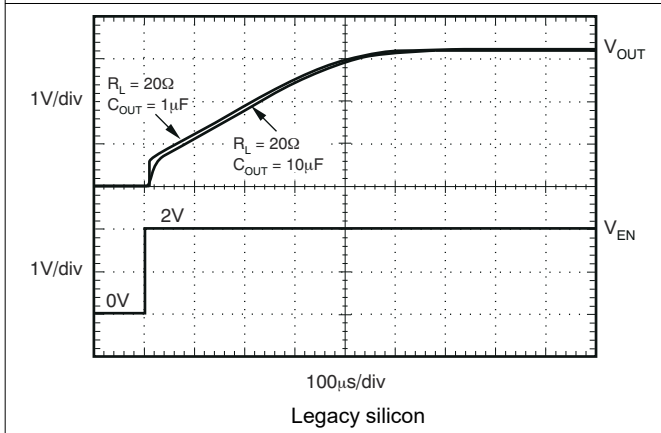

Figure 5-39. TPS73701 Turn-On Response
The enable pin (EN) is active high and compatible with standard TTL-CMOS levels.  $V_{EN}$  below 0.5 V (maximum) turns the regulator off and drops the GND pin current to approximately 10 nA. When EN is used to shutdown the regulator, all charge is removed from the pass transistor gate. A  $V_{IN}$  above 1.7 V (minimum) turns the regulator on and the output ramps back up to a regulated  $V_{OUT}$  (see Figure 5-39).